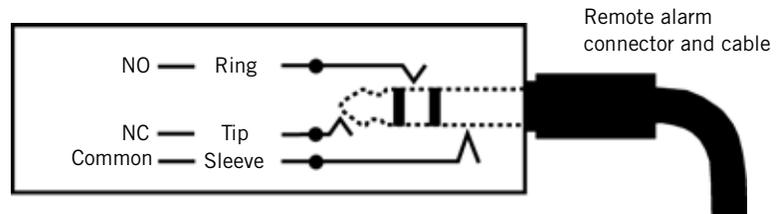

Figure 3-4: Remote Alarm (Nurse Call) Connector
The ventilator signals an alarm condition using normally open (NO) or normally closed (NC) relay contacts, where the deenergized state indicates an active alarm. The remote alarm port is a standard ¼-in. phone jack (ring, tip, sleeve) connector (Figure 3-4).